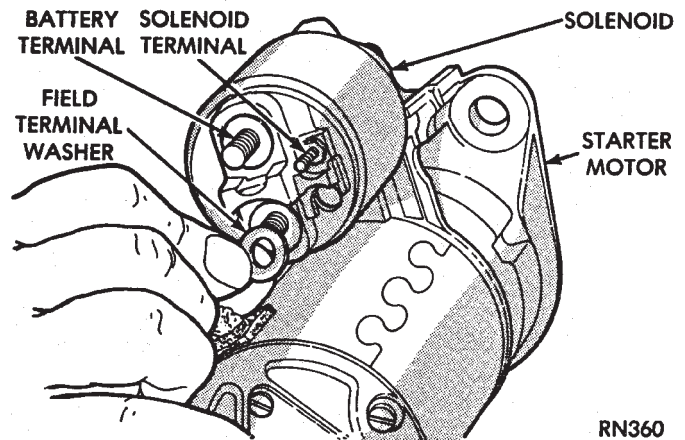

Fig. 16 Field Terminal Washer
- (3) Remove field washer (Fig. 16).